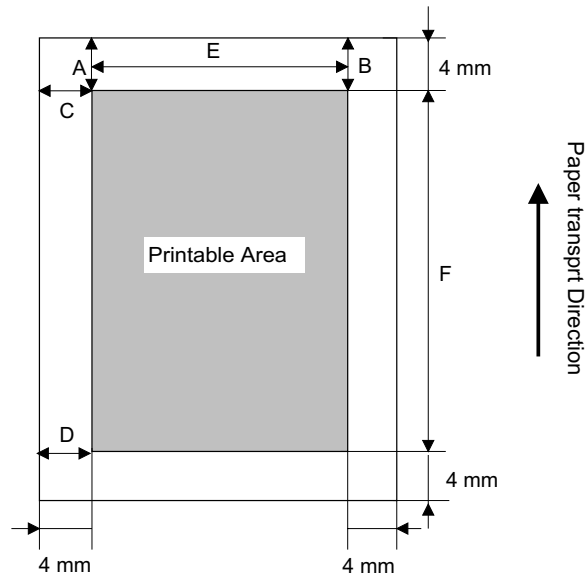

Figure 1-2. Printable Area
- Printable area: See Figure 1-2.
- Print Position (Refer to Figure 1-2.)
- Main scan direction: Standard position (C) ± 2.0 mm
- Sub scan direction: Standard position (A) ± 2.5 mm
- Main scan direction: Standard position (C) ± 3.0 mm
*2: Sub scan direction (See Figure 1-2.)